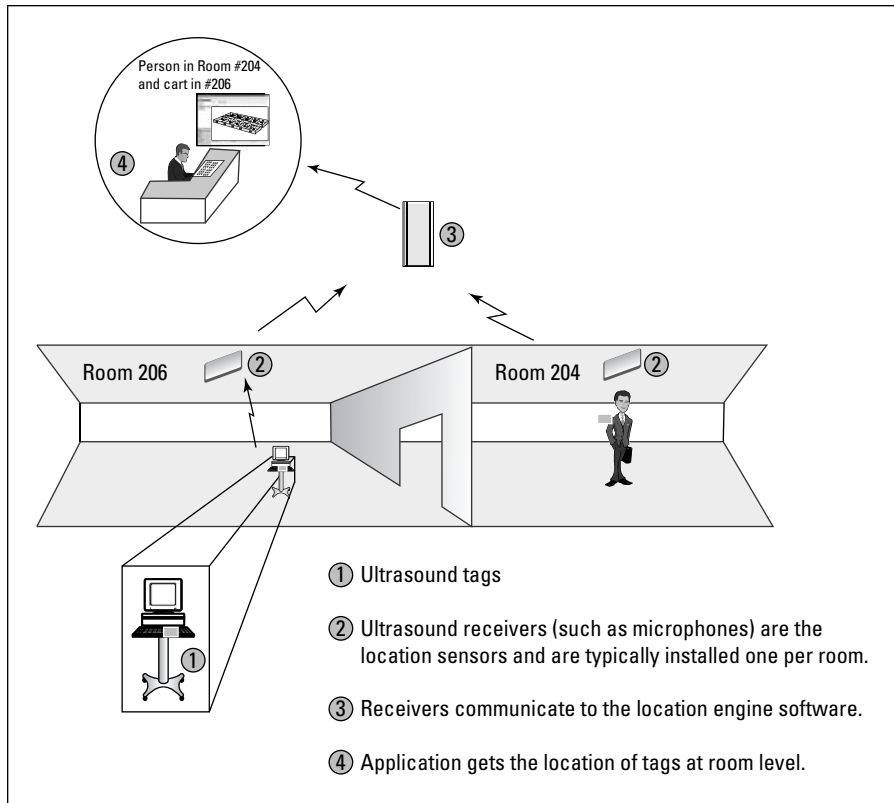

Figure 9-4:
4. The receivers receive the transmitted ultrasound signals from a tag and transmit the signals in digital format to the location engine by using the existing wired or wireless LAN, giving the application the location of that asset or person, as illustrated in Figure 9-4.